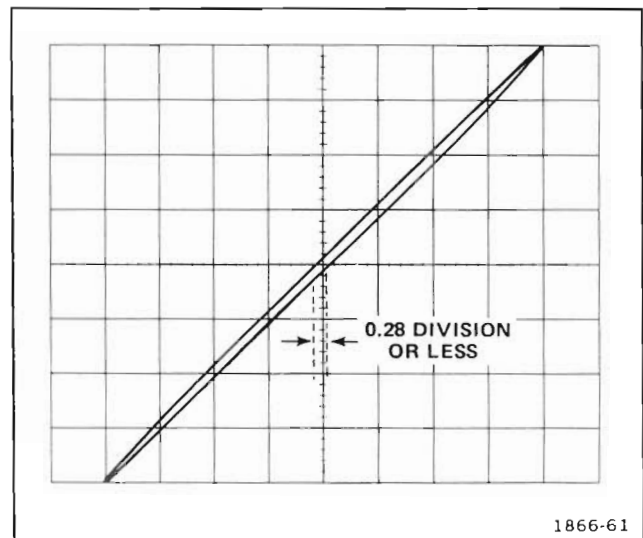

Figure 5-3. Typical display when checking X-Y phase shift.
e. Center the resultant Lissajous display on the graticule as shown in Figure 5-3.
✓ f. CHECK—For 0.28 division or less of opening at center of the Lissajous display (measured horizontally). See Figure 5-3.